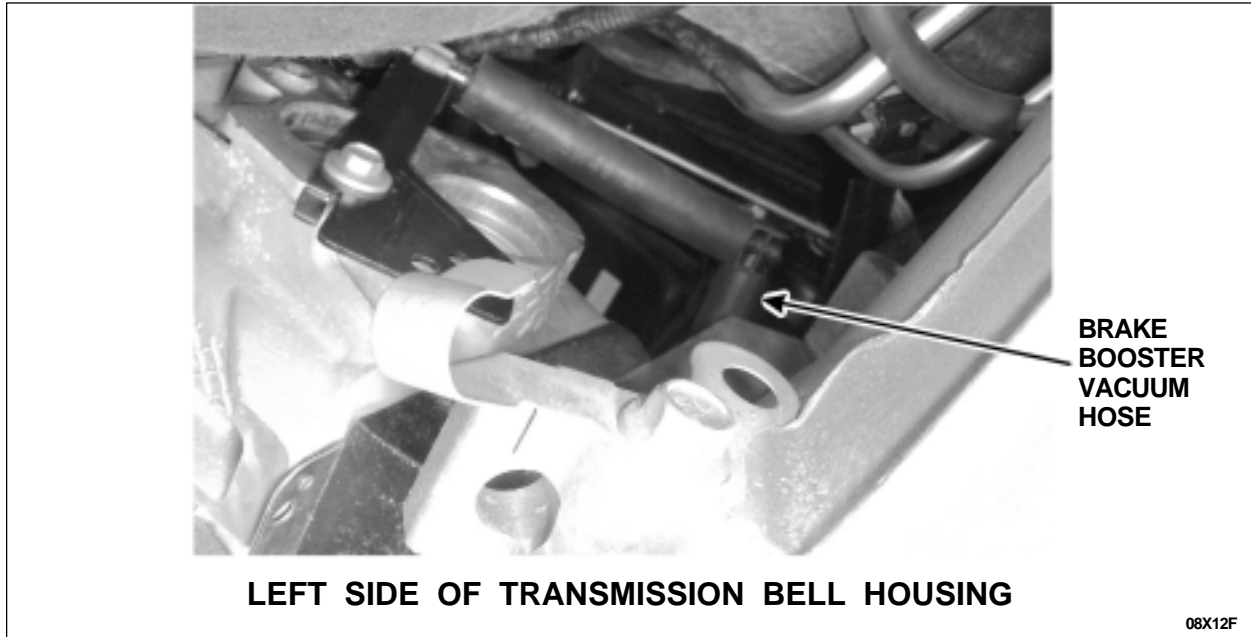

FIGURE 6
CAUTION: To avoid breaking the intake manifold fitting, do not use a pry bar to remove the short end of the brake booster vacuum hose from the intake manifold. See Figure 6. A pry bar may be used to remove the long end of the brake booster vacuum hose that is attached to the brake booster vacuum stand-pipe. See Figure 7.
7. Remove the brake booster vacuum hose from the intake manifold. See Figure 6.